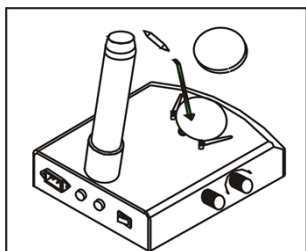

Fig.8
- 1) Press the stage on the sunken place then the other side will be lifted. (Fig.8)
- 4) Recover the stage plate.(Fig.8)
- ① Before replacing the lamps, turn off the power first.
- ② Avoid violence while the lamp is plugged into the lamp socket.